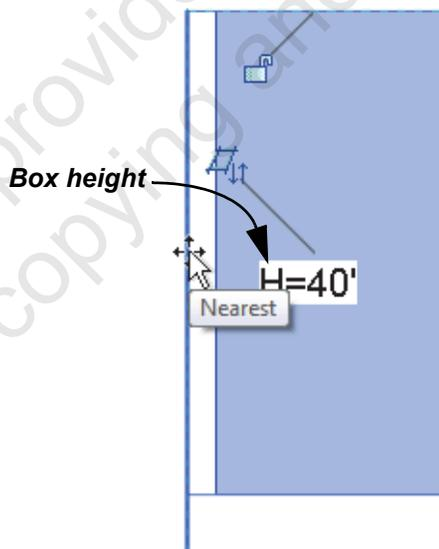

Figure 1-19
7. Select each box and use shape handles to resize them to fit the outline. For the angled sketches, rotate or align the boxes first. When you drag the shape handles, they automatically snap to nearby elements, as shown in Figure 1-19.